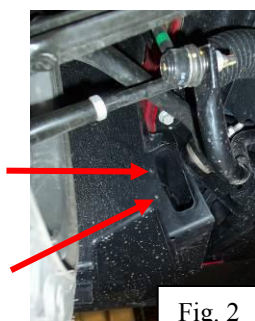

Fig. 2
4. Remove the two Torx head screws holding the inner fender splash guard to the brake duct (Fig. 2).